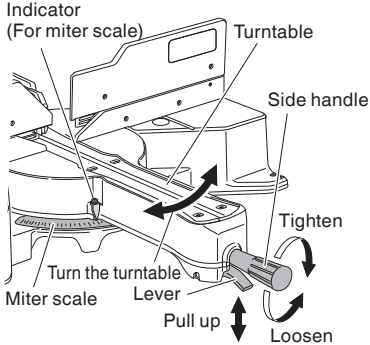
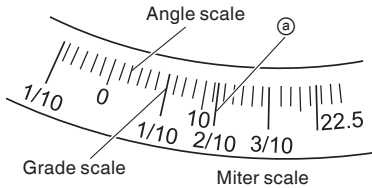

Fig. 31
Fig. 32
- (1) Loosen the side handle and pull up the lever for angle stoppers. Then, adjust the turntable until the indicator aligns with desired setting on the miter scale (Fig. 31).
- (2) Re-tighten the side handle to secure the turntable in the desired position.
- (3) The miter scale (Fig. 32) indicates both the cutting angle on the angle scale and the gradient on the grade scale.
- (4) The gradient, which is the ratio of the height to the base of the triangular section to be removed, may be used for setting the miter scale instead of the cutting angle, if desired (see Fig. 32).
- (5) Therefore, to cut a workpiece at a grade of 2/10, set the indicator to position a as indicated in Fig. 32.